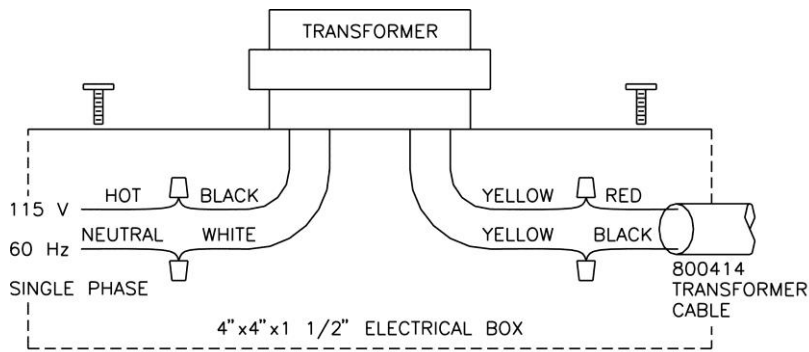

Figure 5: Transformer Installation
3. Connect 115 VAC line voltage **HOT** wire to **BLACK** wire on transformer and **NEUTRAL** wire to **WHITE** wire on transformer (Figure 5).